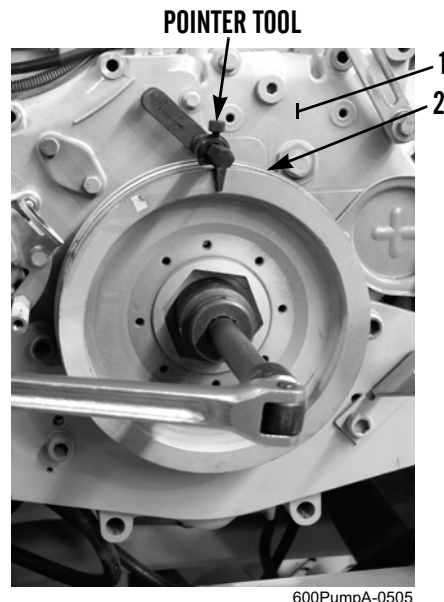

Figure 1. Attaching Pointer Tool and Rotating Crankshaft.
2. Mark top of vibration damper (Figure 1, Item 2) after overlap position has been achieved.
3. Attach pointer tool to engine front cover (Figure 1, Item 1), placed above and aligned with center of vibration damper (Figure 1, Item 2).
4. Use a socket and breaker bar to rotate crankshaft approximately 180 degrees in direction of engine rotation (Figure 1).